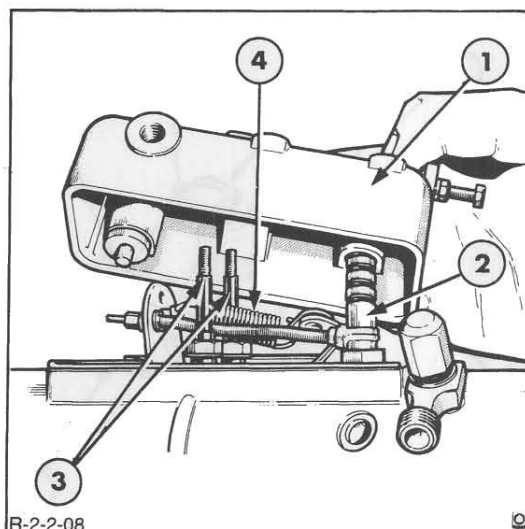

Figure 37
25. Press the shut-off shaft through the governor housing, Figure 37, and turn the shaft so that the peg which engages in the slot of the shut-off bar is next to the housing.